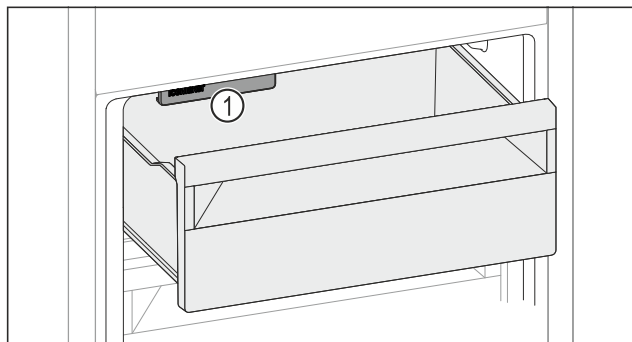

Fig. 142
- ▶ Watch out for the IceMaker Fig. 142 (1).